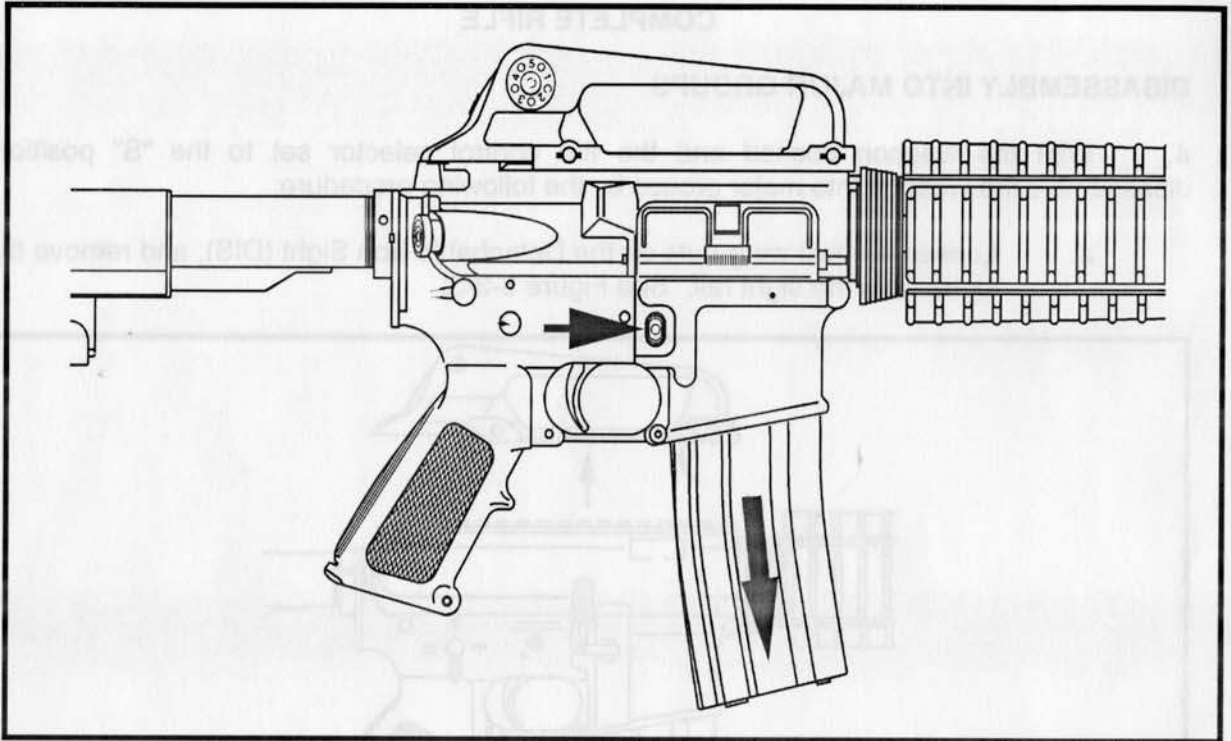

Figure 3-2-1 Magazine Removal
- a. With the weapon pointed in a safe direction, remove the magazine by pressing the magazine release button and pulling the magazine down out of the bottom of the weapon. See Figure 3-2-1;